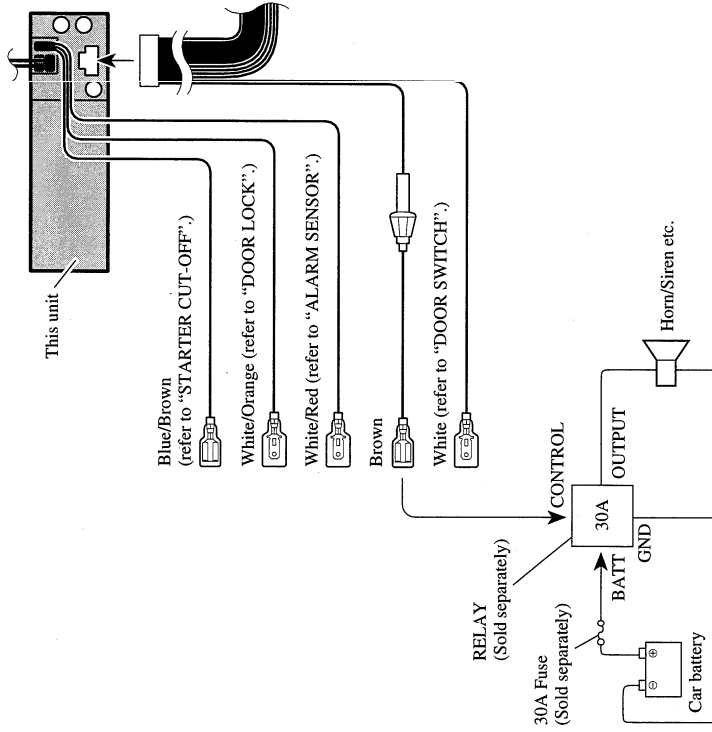

Fig. 33
- Brown (ALARM OUTPUT)** (Fig. 33)